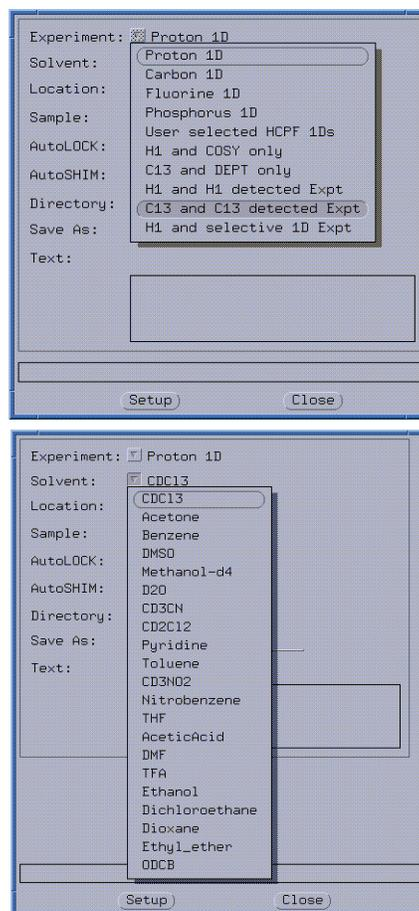

Figure 18. *GLIDE* Setup for C13 and C13 Detected Experiments
3. Right click the **Experiment** drop-down menu and select **C13 and C13 detected Expt**, as shown in Figure 18.
4. Right click the **Solvent** drop-down menu and select an appropriate lock solvent, as shown in Figure 18.